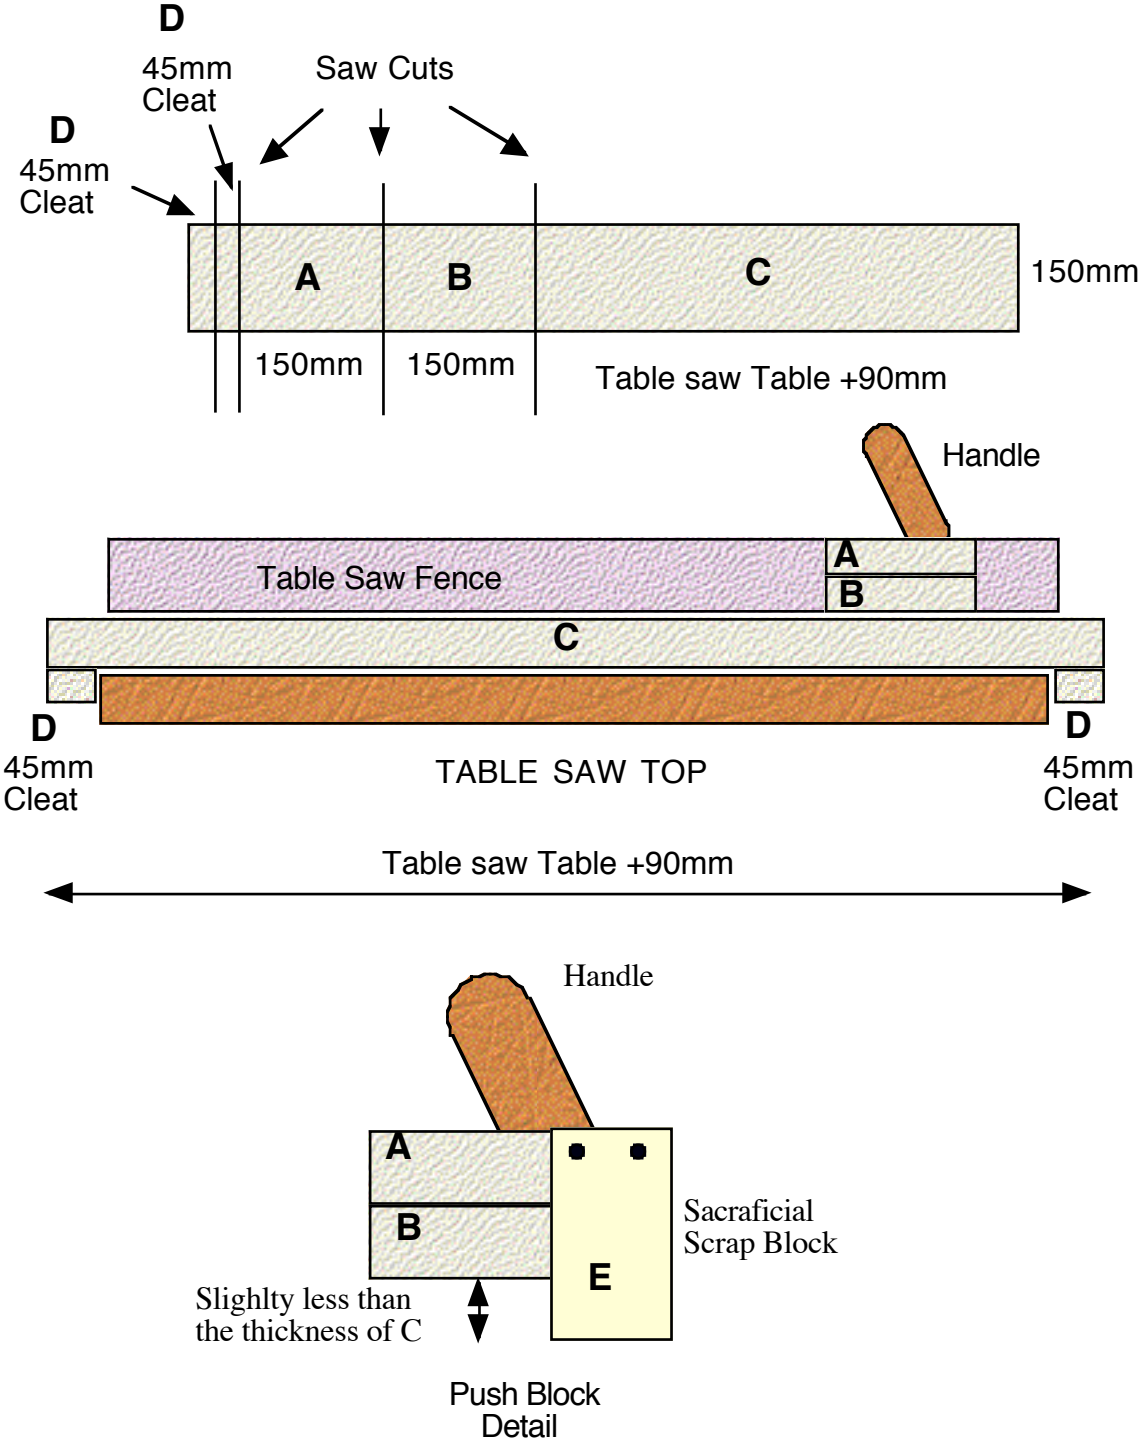

Figure 8
The jig starts life as a 150mm wide x 19mm thick plank ( Tassie Oak is ideal) which is cut to fit your Table Saw table as shown in Figure 8. The two cleats (D) are fixed to part C so that C is a snug fit over your Table Saw table thereby preventing C from moving forward or backward during strip cutting.